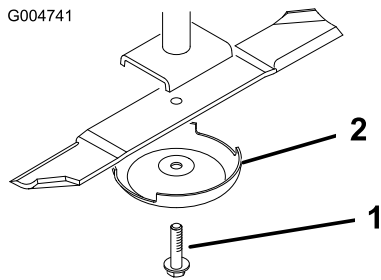

Figure 83
- Grasp the end of the blade using a rag or thickly padded glove. Remove the blade bolt, anti-scalp cup, and blade from the spindle shaft (Figure 83).